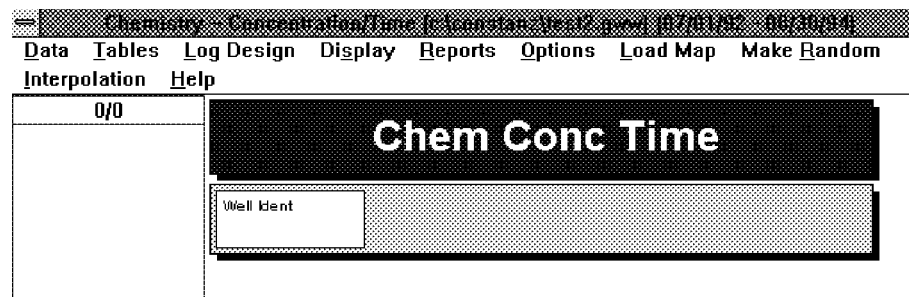

Figure 20-2
20.1.2. Application's Content As shown in Figure 20-2, the Concentration-Time application is comprised of the following major options: